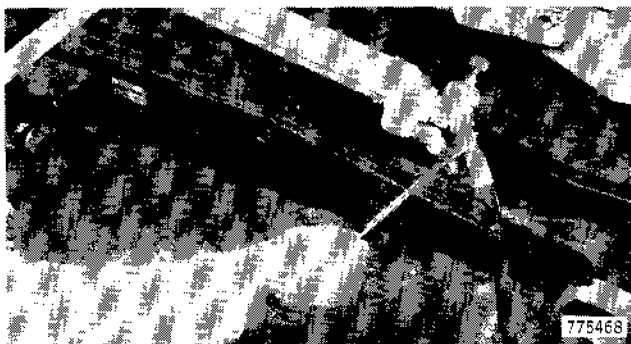

Figure 51
54. Disconnect the hoses at the steering cylinder, Figure 51. Put a plug and cap on the hoses and steering cylinder tubes.